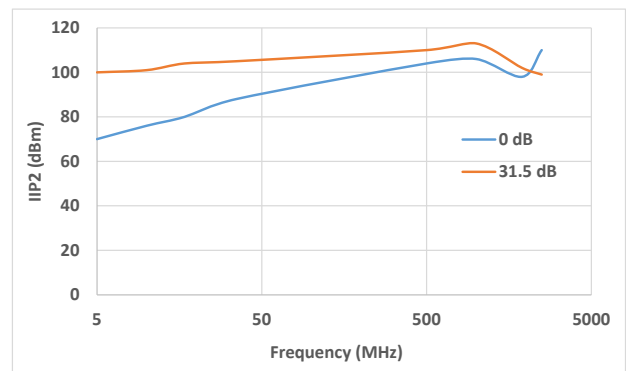

Figure 1. IP2 versus frequency and attenuation
For latched parallel programming the Latch Enable (LE) should be held LOW while changing attenuation state control values, then pulse LE HIGH to LOW (per Figure 1) to latch new attenuation state into device.